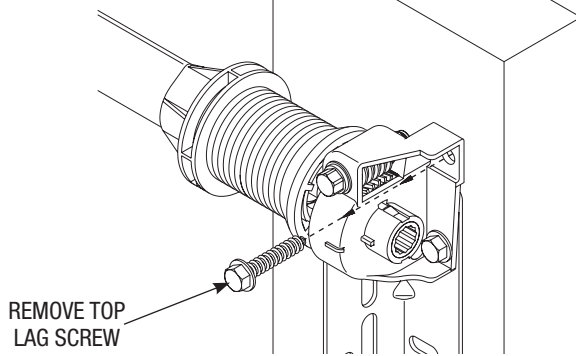
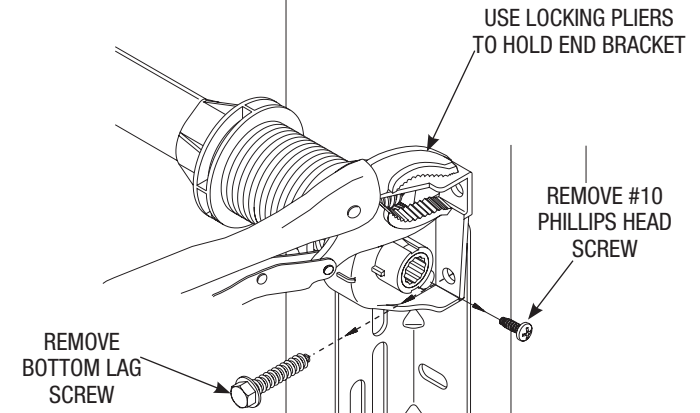

Fig. 5
Fig. 6
**Step 5:** Remove the upper 5/16" x 1-5/8" lag screw from the right hand end bracket (Fig. 5). Attach locking pliers to the upper portion of the end bracket and hold the housing steady while removing the lower 5/16" x 1-5/8" lag screw and #10 x 1/2" phillips head screw from the end bracket (Fig. 6).